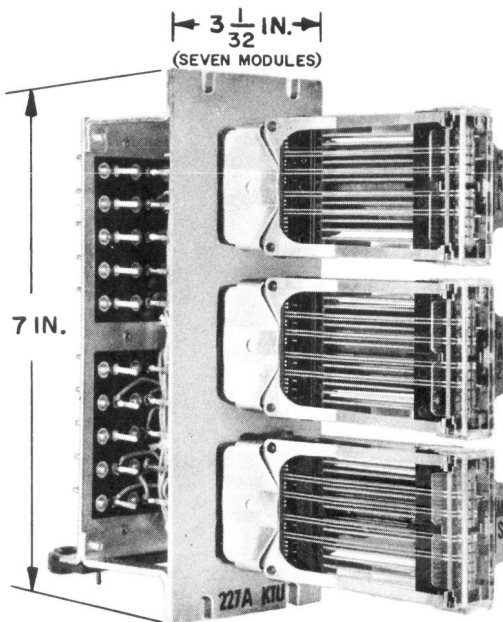

Fig. 1 — 227A KTU — Front View
1.01 The 227A KTU is a panel-type mounted unit. It is the same size as a 202-type KTU requiring seven 7/16-inch modules on a mounting bar. Three wire spring relays designed to operate on 14 to 26 volts dc are used in this unit. The relays are wired independently of each other. This permits a wide variety of applications. In use it is similar to and in many cases replaces the 17B KTU. It was designed to be a visual signal control, audible signal control, and switching relay on all systems. (See Fig. 1.)